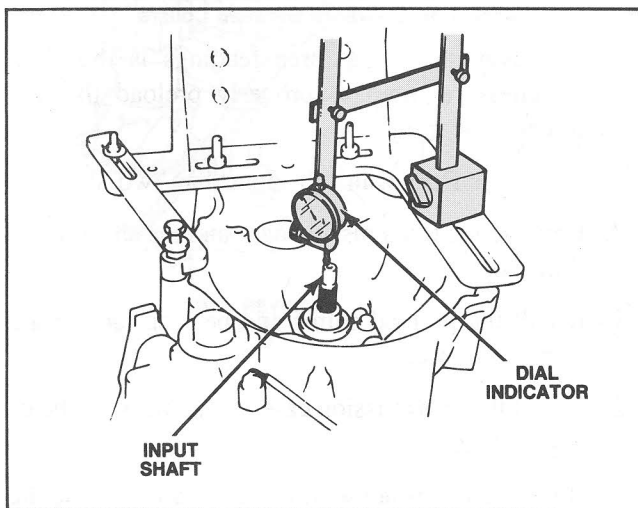

Figure 101 Input Shaft End Play Measurement
8. Raise the input shaft and note the dial indicator reading. (Figure 101).